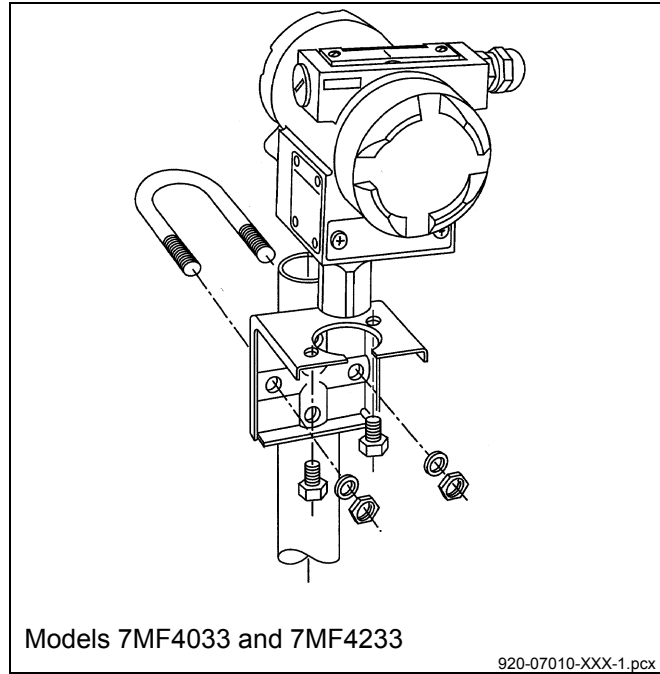

FIGURE 4-10 Pipe Mounting, Gauge Construction
This section describes the mechanical installation of a transmitter and the installation of electrical conduit for wiring. Transmitter dimensions are given in Figures 9-1 through 9-4. Related mounting information for optional mounting bracket kits is provided in Figures 4-10, 4-11, and 4-12. Table 1-1 correlates measurement, model number, measuring cell, and figure number.
- See Figure 4-10 for Absolute Pressure Models 7MF4033 and 7MF4233, gauge construction.